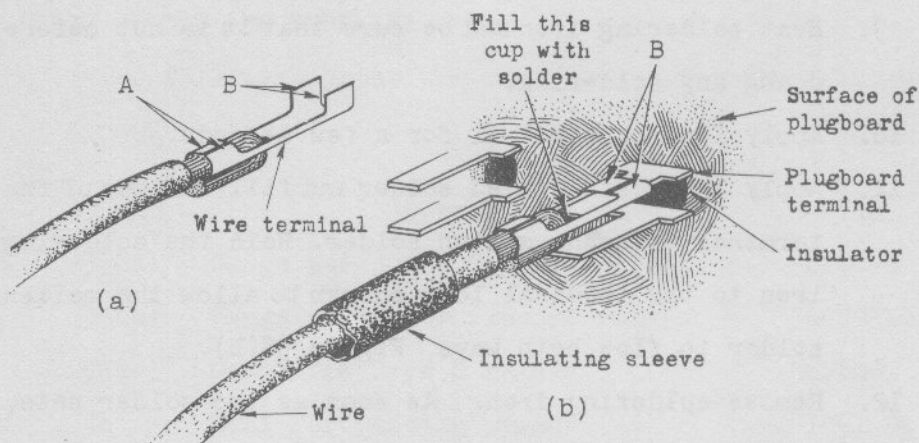

Figure 58. Plugboard wiring
4. Feed the wire through the round hole in the wire terminal and squeeze ears "A" tight against the wire. Bend the end of the wire so that it lies snug against the terminal, Figure 58(a).
11. Apply the rosin-filled solder and fill the cup of the terminal with the molten solder. Hold the soldering iron to the terminal long enough to allow the molten solder to flow both ways, Figure 58(b).